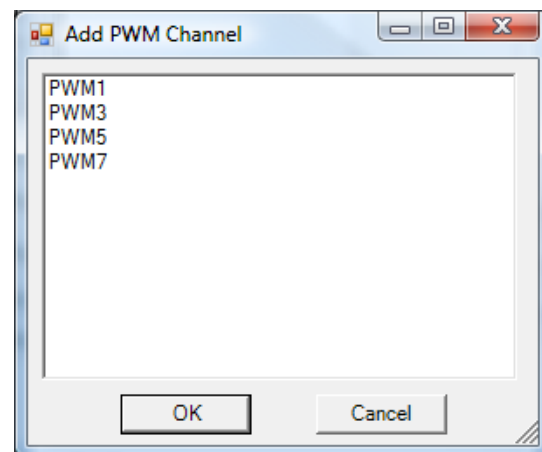

Figure 46 - Add PWM Channel Window
6. In the ADD PWM dialog, select the channels to install. To select multiple PWM channels, hold the CTRL key while clicking on the channel. Refer to Figure 46.